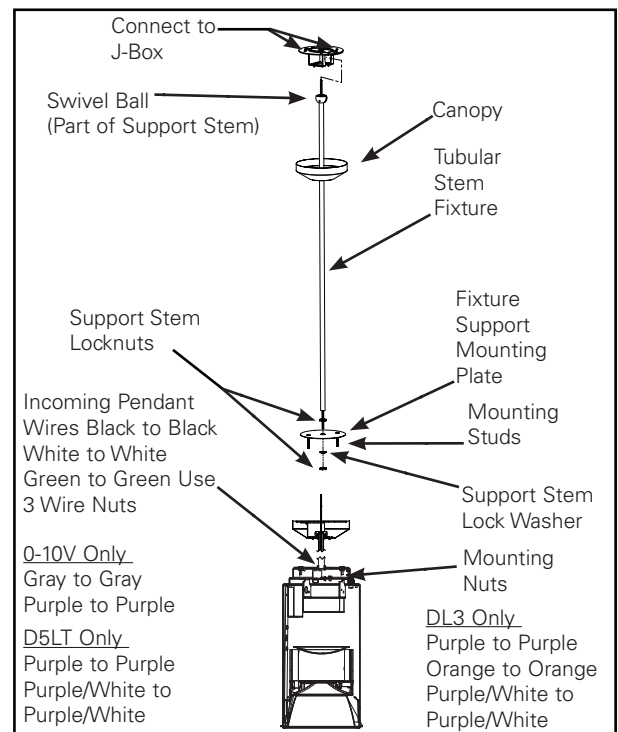

Figure 1.
1. Mount swivel support to ears on flush mounted junction box (Figure 1.).
2. Place canopy on stem (Figure 1.).
5. Mount fixture support mounting plate to cylinder mounting bracket using the two mounting studs and nuts (Figure 1.).
8. Insert swivel ball end of stem and fixture assembly into swivel support and splice wires to power supply leads (Figure 1.). (See main instruction sheet)
9. Slide canopy over swivel support and secure by twisting to engage ears on swivel support (Figure 1.).
10. Install modules and trim per instructions provided with the housing (Figure 1.).